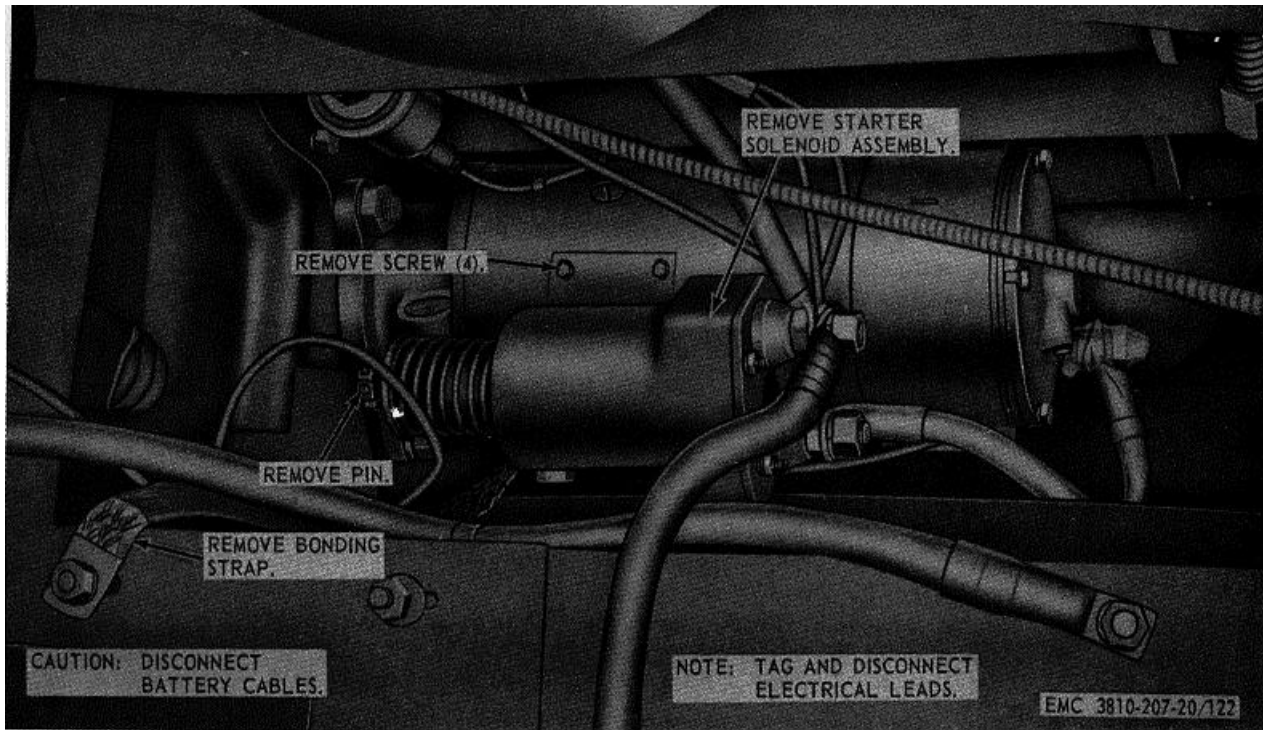

Figure 122. Starter solenoid assembly, removal and installation.
a. Removal. Remove the starter solenoid assembly as instructed on figure 122.
- (1) Clean all parts with an approved cleaning solvent and dry thoroughly.
- (2) Inspect the starter solenoid assembly for proper operation. Replace a defective starter solenoid assembly and hardware as necessary.
c. Installation. Install the starter solenoid assembly as illustrated on figure 122.